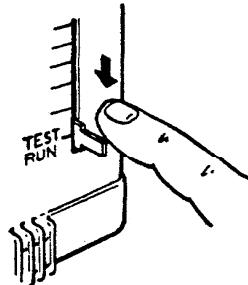

Fig. E-10H
- Set the thermostat lever to the lowest position. (The central position of the lever becomes the TEST RUN position.) Fig. E-10H.